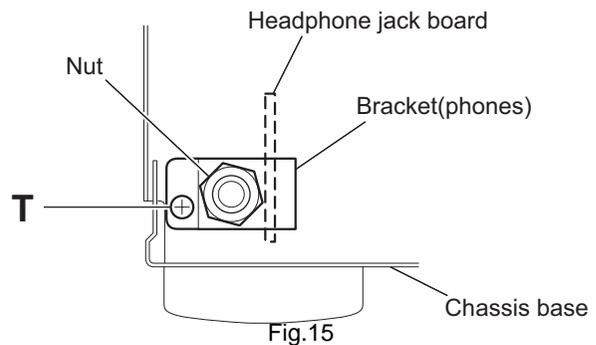

Fig.15
- (2) From the front side of the main body, remove the nut and screw **T** attaching the Bracket(phones) to the chassis base. (See Fig.15)